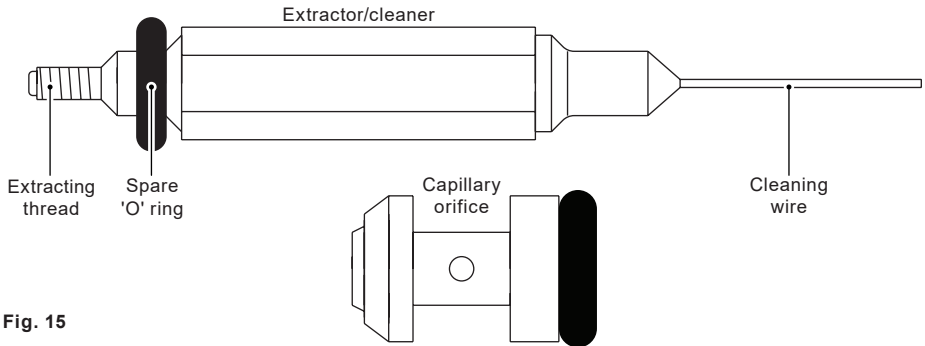

Fig. 15
5.2.2 Removal and cleaning of capillary orifice (see Figure 15):